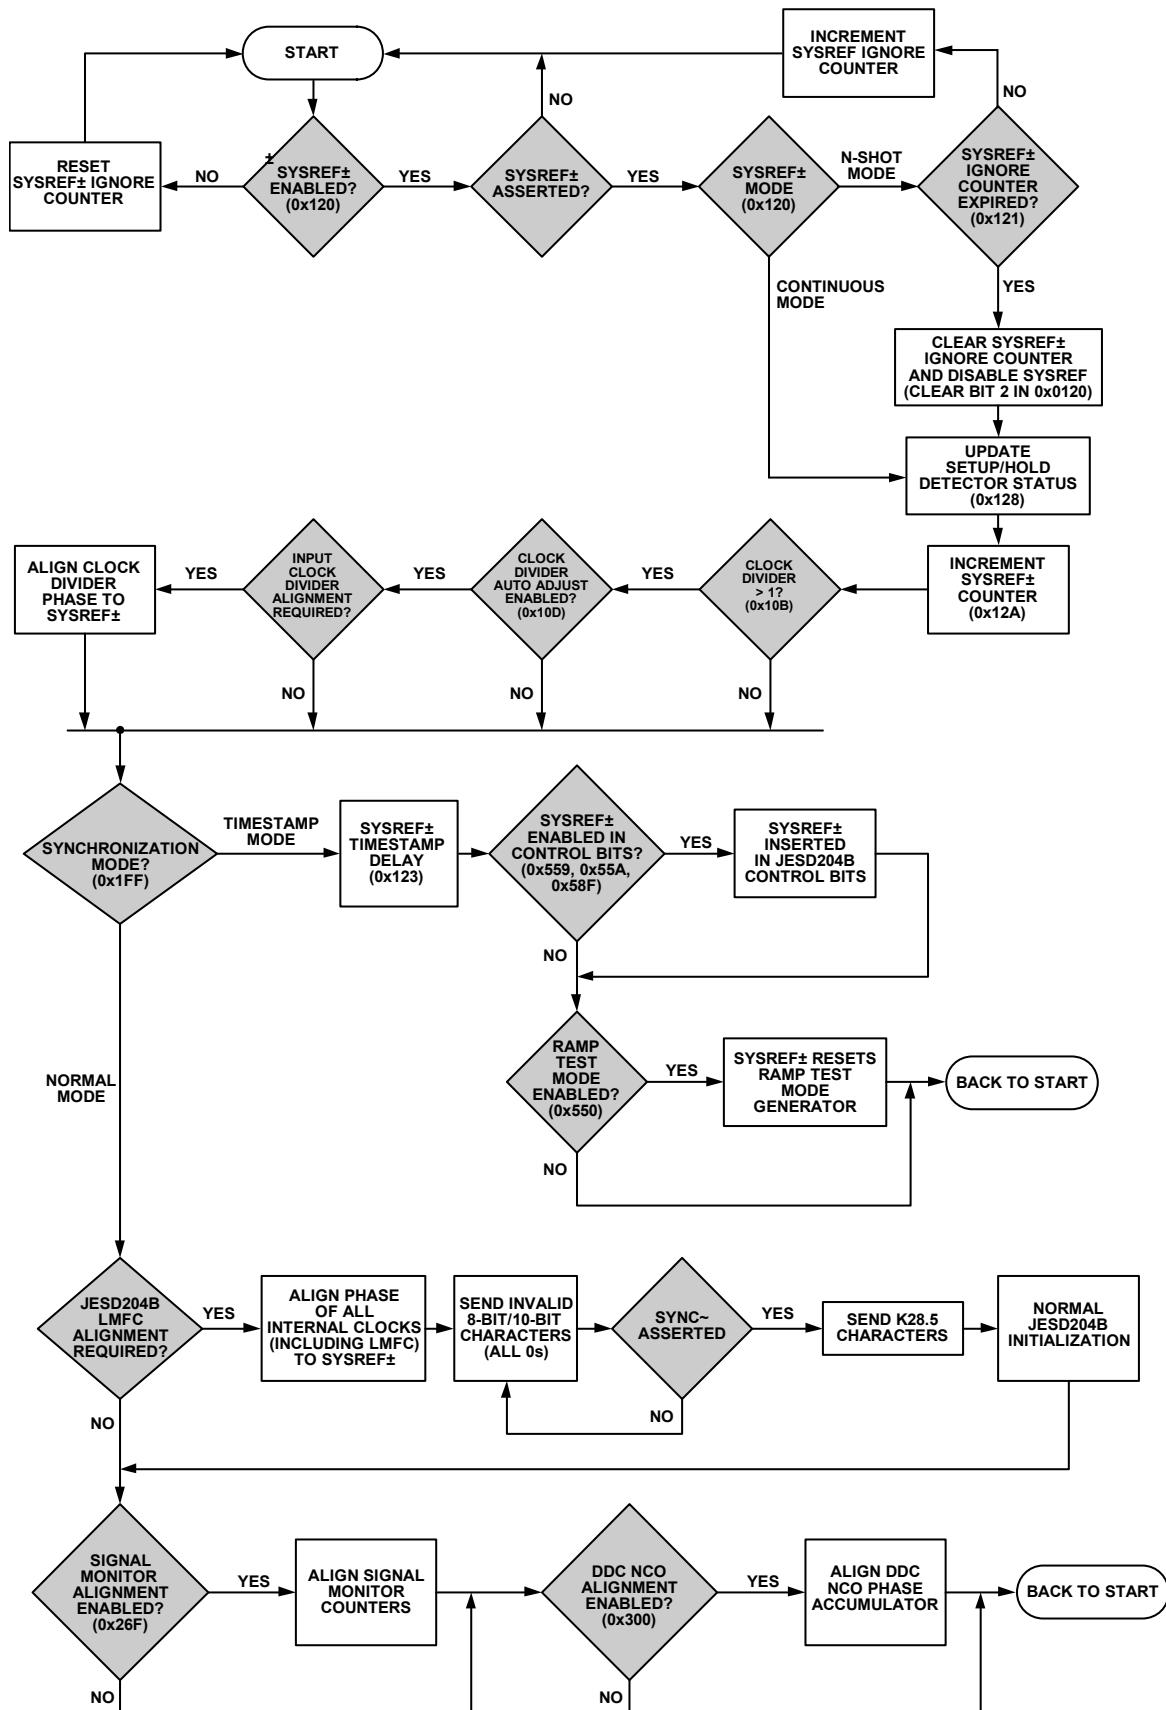

Figure 107. SYSREF± Capture Scenarios and Multichip Synchronization
The flowchart shown in Figure 107 describes the internal mechanism for multichip synchronization in the AD9234. There are two methods by which multichip synchronization can take place, as determined by the chip synchronization mode bit (Register 0x1FF, Bit 0). Both methods involve different SYSREF $\pm$  signal applications.
The default state of the chip synchronization mode bit is 0, which configures the AD9234 for normal chip synchronization. The JESD204B standard specifies the use of SYSREF $\pm$  to provide deterministic latency within a single link. This same concept, when applied to a system with multiple converters and logic devices, can also provide multichip synchronization. In Figure 107, this is referred to as normal mode. Following the process outlined in Figure 107 ensures the AD9234 is configured appropriately. Consult the respective ASIC or FPGA user intellectual property (IP) guide to ensure the JESD204B receivers are configured appropriately.